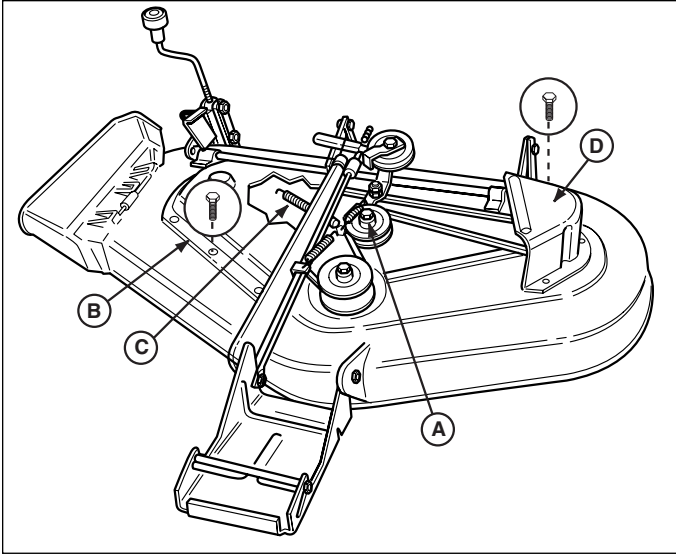

Figure 55. Mower Deck
3. Remove the capscrews securing the right-hand arbor cover (B, Figure 55). Remove three capscrews securing left-hand arbor cover (D).
4. Using a pair of locking pliers or a spring puller, remove the idler pulley spring (C, Figures 55) from slot in deck.
5. Loosen capscrew (A, Figure 55) securing the idler pulley to the bracket. The belt can now be slipped between the pulley and idler bracket hub.
7. Tighten the capscrew (A, Figure 55).
8. Reinstall spring (C, Figures 55) into its slot in mower deck.
9. Reinstall the left and right arbor covers (B and D, Figures 55).